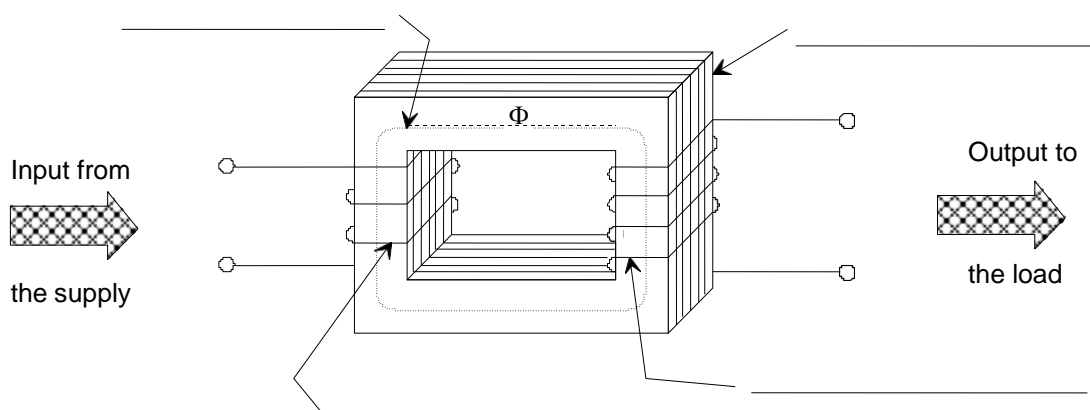

Figure 1
1. Redraw the transformer shown in figure 1 then identify the various parts.